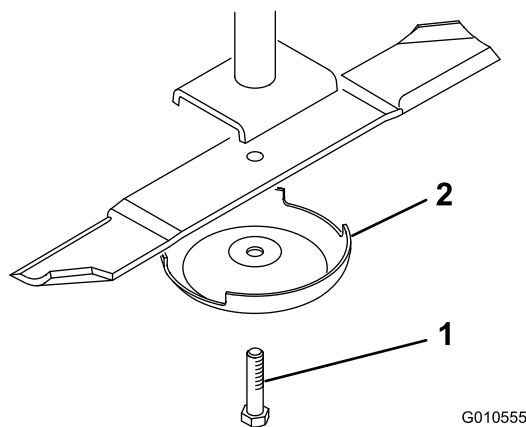

Figure 21
- Grasp the end of the blade using a rag or thickly padded glove. Remove the blade bolt, anti-scalp cup, and blade from the spindle shaft (Figure 21).